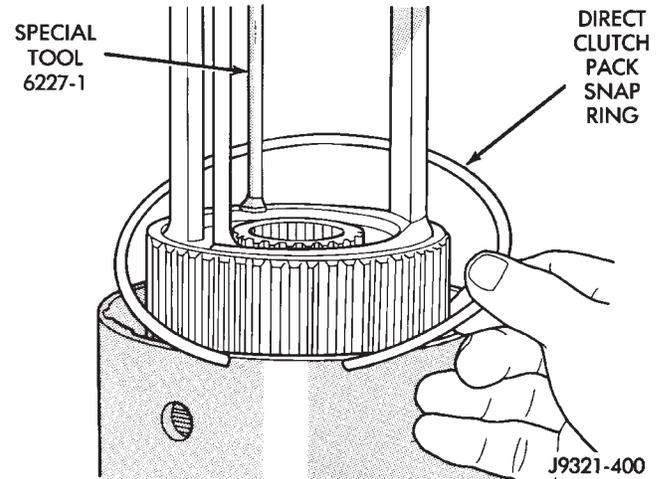

Fig. 251 Direct Clutch Pack Snap Ring Installation
(22) Slowly compress clutch hub and spring. Compress spring and hub only enough to expose ring grooves for clutch pack snap ring and clutch hub retaining ring.
(23) Realign clutch pack on hub and seat clutch discs and plates in clutch drum.
(24) Install direct clutch pack snap ring (Fig. 251). **Be very sure snap ring is fully seated in clutch drum ring groove.**